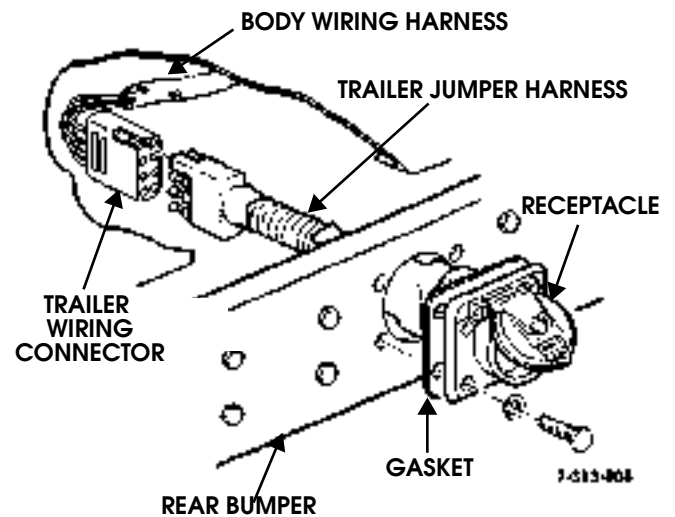

Figure 13-43: Trailer Jumper Harness Mounting
1. Insert the trailer jumper harness through the rear bumper cutout and bolt the receptacle in place (Figure 13-43).